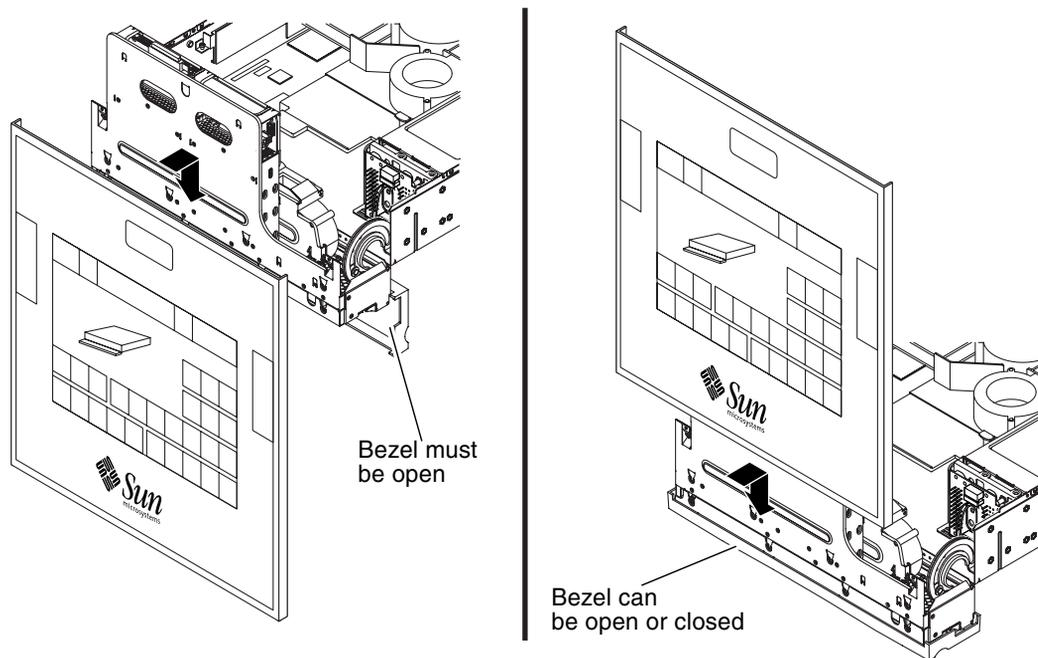

FIGURE 2-6 Two Methods of Hanging the Detached Cover on a Netra 240 Server
- 4. Hang the cover on the Netra 240 server, if necessary (FIGURE 2-6).**